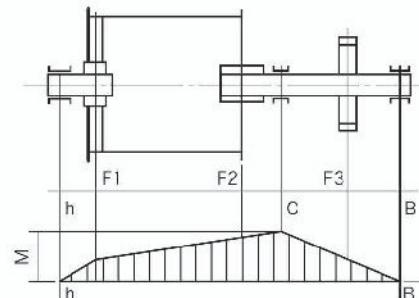

Fig. 3
4. In case of a single drum drive with rigid connection of gear shaft and drum,(see fig.3) a given load F and bending or alignment error will produce a max. bending moment at the end of the gear shaft and of M .